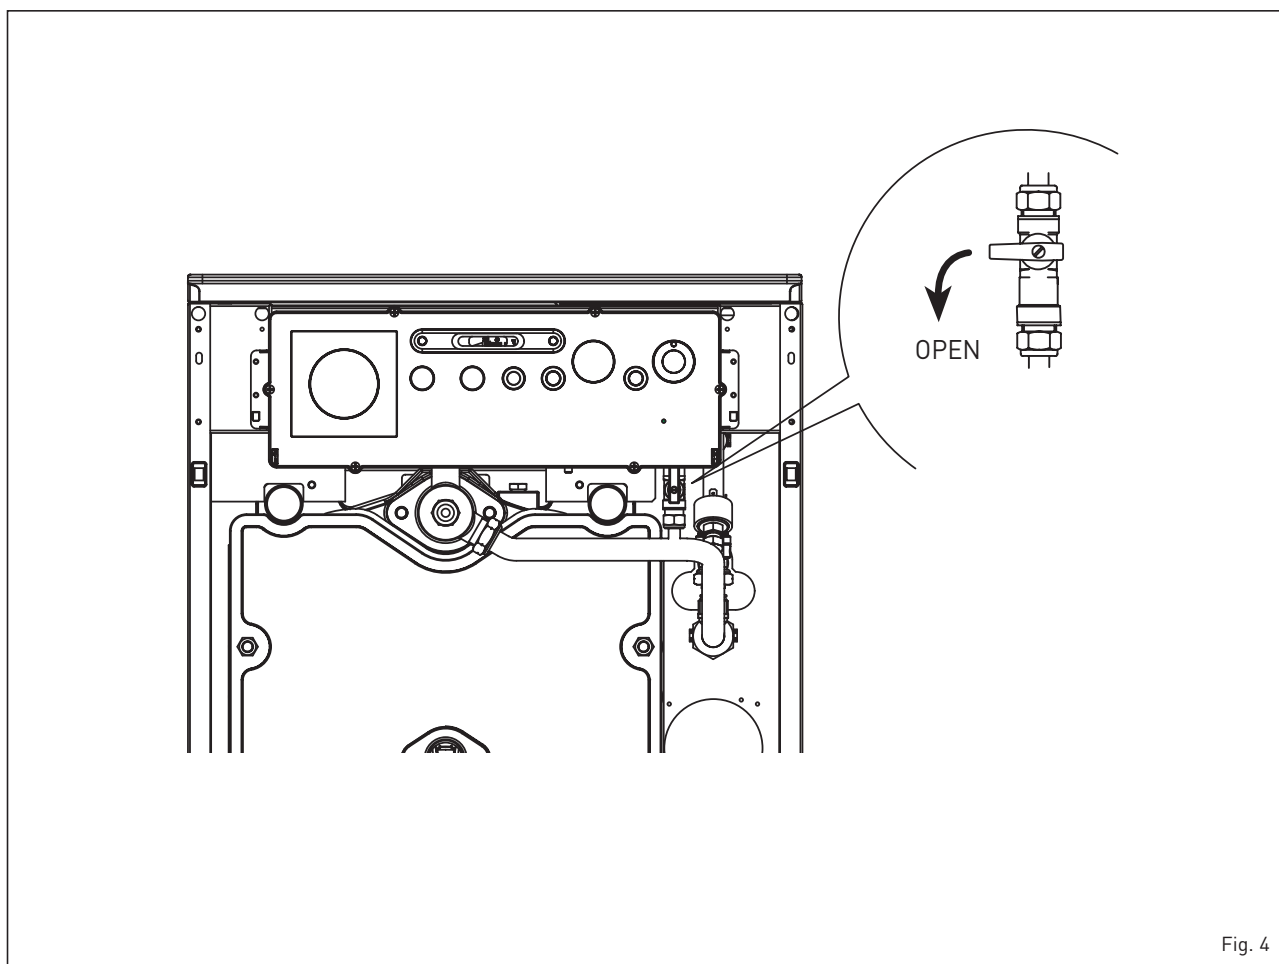

Fig. 4
2.2.1 System filling (fig. 4)
At the end of the operation make sure that the tap is closed (fig. 4).